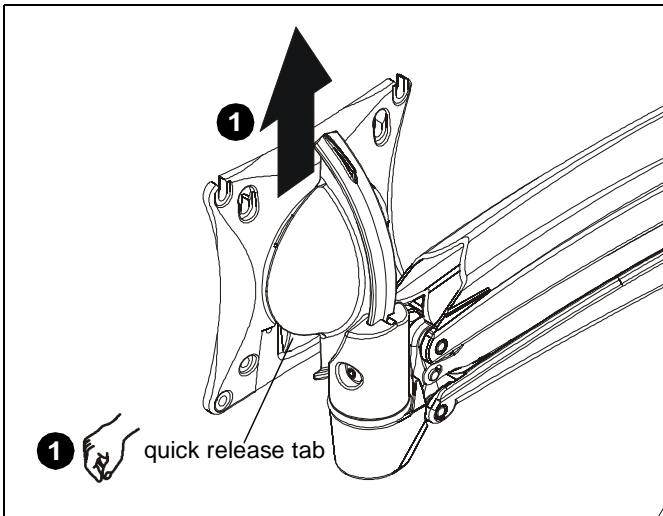

Figure 11
1. Remove quick release faceplate from mount by pressing quick release tab and sliding faceplate off mount. (See Figure 11)